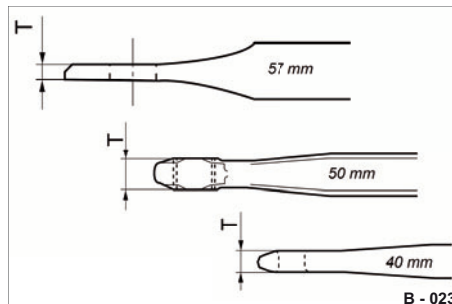

Fig. 8 Thickness of towing eye
- Clean the wear bushing (Fig. 8/1) and the towing eye (Fig. 8/2) with a clean, dry cloth.
- Check the diameter (D) of the wear bushing- see Tab. 4.